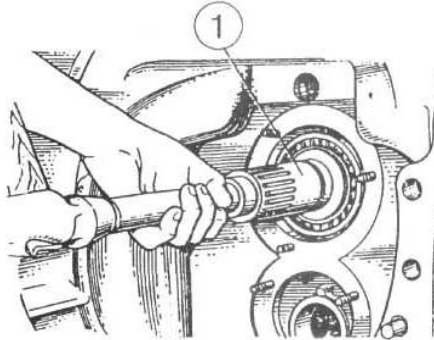

Figure 4.46
d) press off clutch body driving shaft of PTO drive 1 (Figure 4.46) with two bearings;